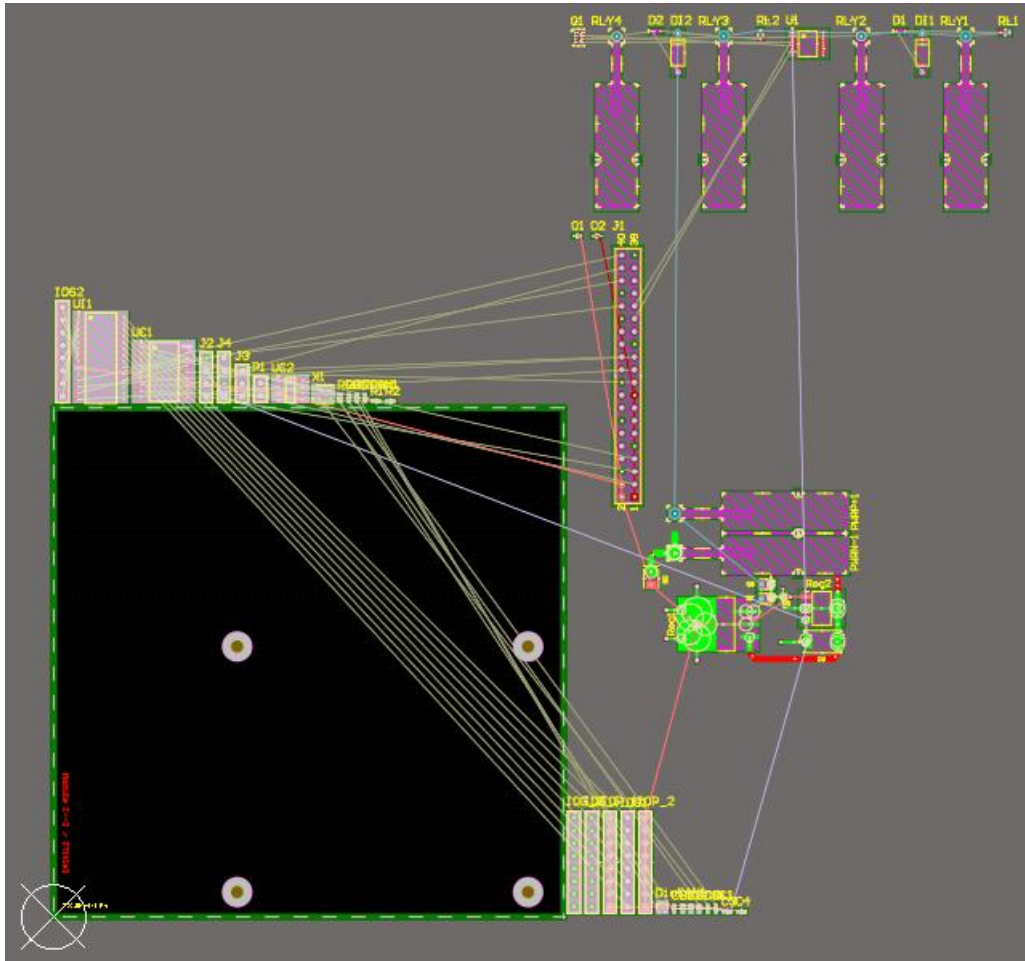

Figure 6. Components Arranged Outside of the board
- b) Hit **Shift+C** to clear the current component selection. See Figure 6 to see the end result.